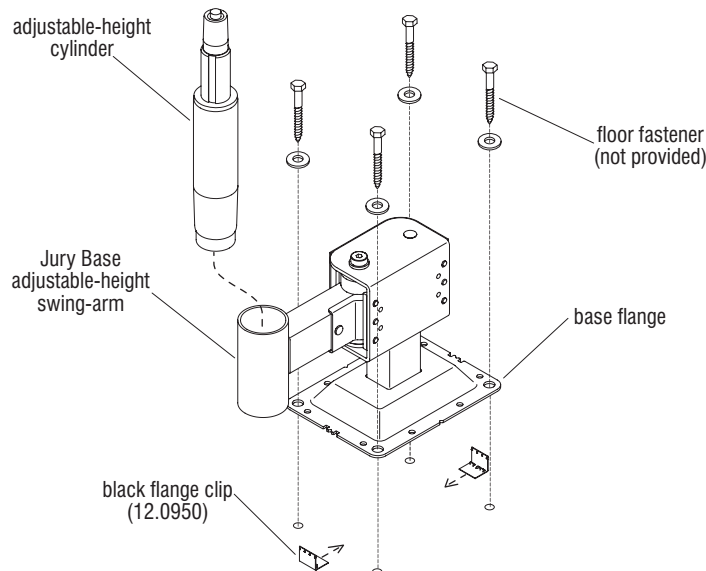

Figure 2 - Adjustable-Height Swing-Arm Base
1. Determine if your installation includes "Fixed-Height Swing Arm Bases" (Figure 1) or "Adjustable-Height Swing Arm Bases" (Figure 2). Stage bases at the appropriate location according to the space-planning layout.
5. If you are installing **Adjustable-Height Swing-Arm** bases, orient the adjustable-height cylinder as illustrated and press into the opening in the arm (Figure 2).